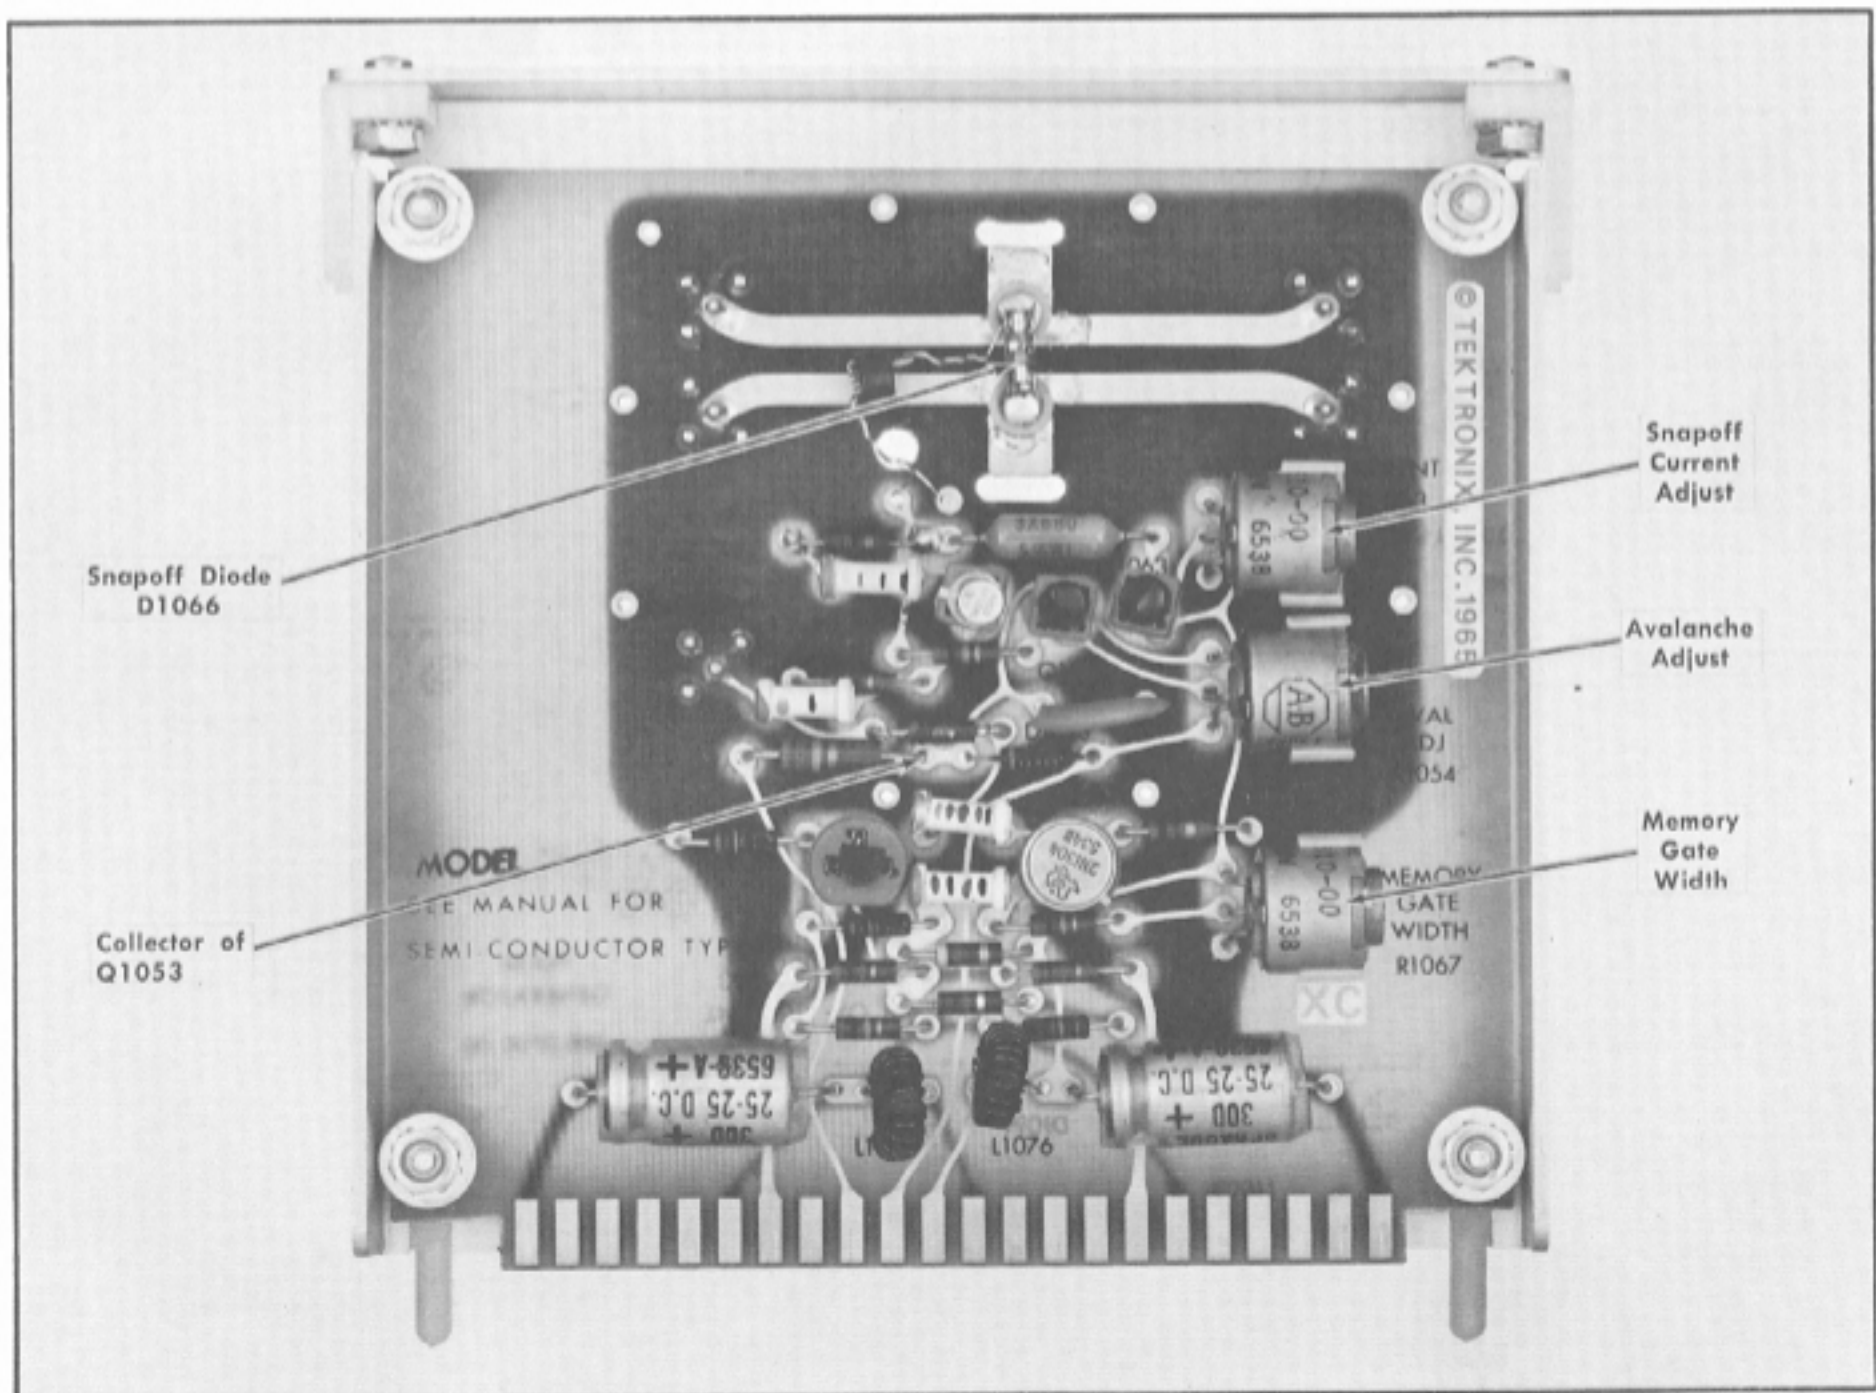

Fig. 6-8. Location of controls on Pulse Generator Card Assembly.
k. Connect the voltmeter positive lead to the collector of Q1053, as shown in Fig. 6-8. Observe approximately +175 volts.